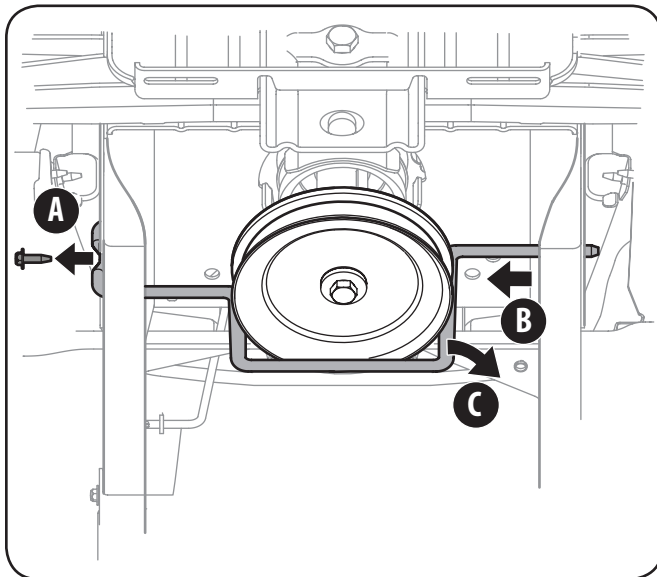

Figure 3-9
9. If your tractor is equipped with a **Manual PTO**, and the belt keeper rod wasn't removed from the tractor when the deck was taken off, remove it before proceeding to the next step. See Figure 3-9.